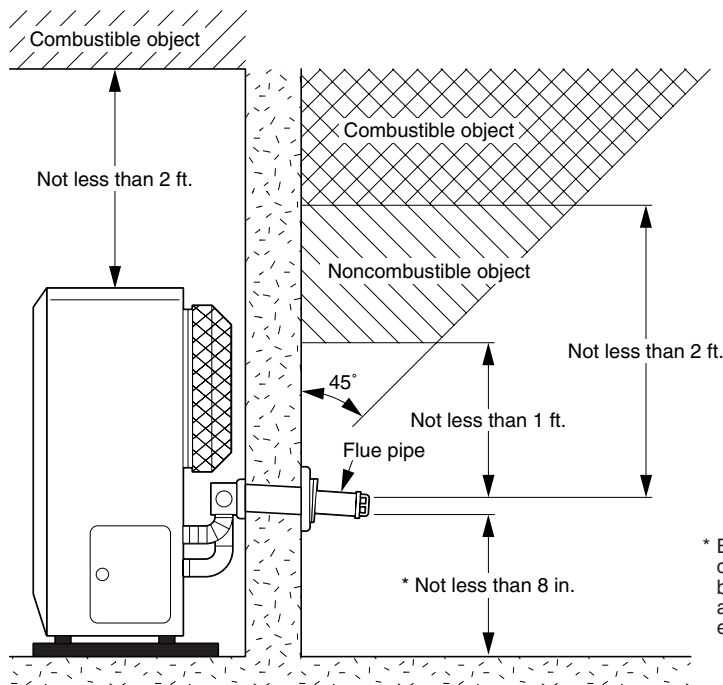

Fig. 2
①	Adjustable Exhaust Pipe Max. 39- ³ / ₈ ~ Min. 22- ⁷ / ₁₆	1
②	Intake Pipe (40 inch)	1
③	Insulating cloth cover (40 inch)	1
④	Pipe Holder	2
⑤	Pipe Support Hardware	2 sets
⑥	L-Shaped Exhaust Joint	1
When using the "Extension pipe (M)" extension kit, the distance between the heater exhaust pipe connection and the flue pipe connection must be at least 25-⁹/₈ inch but no more than 42-¹/₂ inch. (See Figure 2 for reference.)
2. Make sure that the outside area to where the flue pipe will reach is clear of any objects. (See Fig. 2 & 3)
CAUTION! The standard flue pipe installation, as shown in Fig. 2, is for wall thickness from 4 in. to 9 in. ONLY.